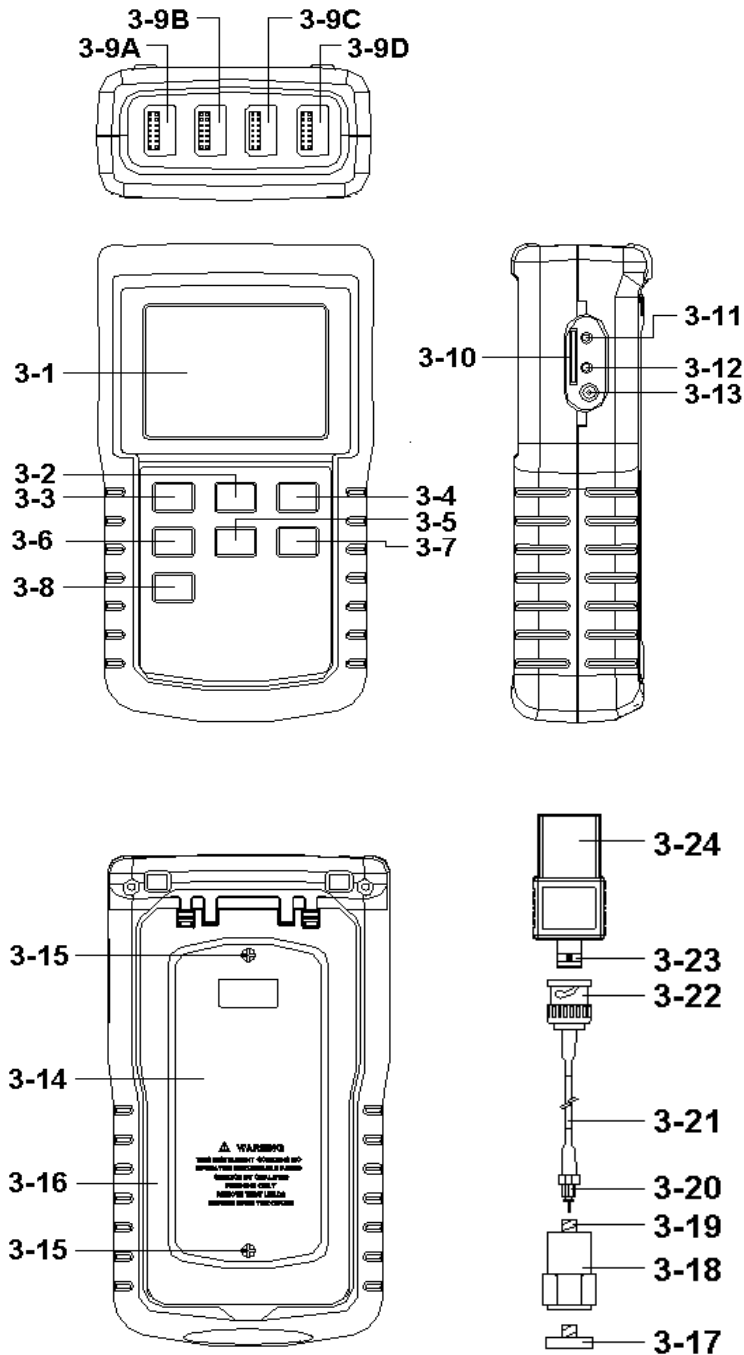
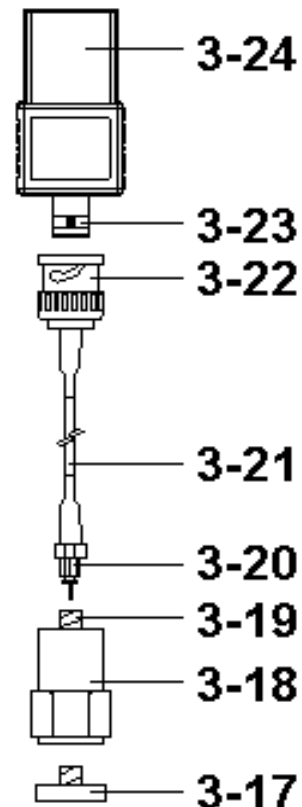

Fig. 1
Fig. 2
Zero Button	Under Acceleration ( RMS ) measurement, sensor motionless , press two Buttons ( 3-5, 3-7, Fig. 1 ) >3 seconds.
Max. Hold Reset Button	Under Max. hold measurement, press two Buttons ( 3-5, 3-7, Fig. 1 ) >3 seconds.
1. Vibration Sensor, 3-18, Fig 2
2. Sensor Cable, 3-21, Fig. 2
- 3 VB-83 module, 3-24, Fig. 2
\* Plug in the " Cable BNC Plug " ( 3-22, Fig. 2 ) to the " BNC Socket of VB-83 module " ( 3-23, Fig. 2 ).
\* Plug in the " Mini plug of cable " ( 3-20, Fig. 2 ) to the " Input socket of vibration sensor " ( 3-19, Fig. 2 ).
**Plug in the " Plug of VB-83 module " ( 3-24, Fig. 2 ) to the " CH1 VB-83 Input Socket " ( 3-9A, Fig. 1 ). If you have extra vibration sensor set, then Plug in to the " CH2/CH3/CH4 VB-83 Input Socket " ( 3-9B, 3-9C, 3-9D Fig. 1 )**
When change the VB-83, it is not necessary to make calibration again due to the vibration detail calibration information already save into the " VB-83 module " ( 3-24, Fig. 2 )*
2)1) Power on the meter by pressing the " Power button " ( 3-2, Fig. 1 ) > 3 seconds continuously.
The " Display " ( 3-1, Fig. 1 ) will show the 4 channels vibration value ( CH1, CH2, CH3, CH4 ) at the same time. If some channels not plug in the VB-83 Vibration set, then the corresponding channel Display will show " - - - - ".
- \* If the surface material of measuring article is the ferrous material, connect " Vibration sensor " ( 3-18, Fig. 2 ) with the " Magnetic base " ( 3-17, Fig. 2 ). Put the whole unit ( Vibration sensor & Magnetic base ) to the surface of measuring article.*
- \* Please do not use the finger or hand to touch the the " Sensor cable " ( 3-21, Fig. 1 ).*
Select the desired display unit by pressing the " ACC/VEL/DISP Button " ( 3-5, Fig. 1 ) > 3 seconds ( not release the button ), the Display will show the following units according Acceleration / Velocity / Displacement in sequence.
Select the desired function ( RMS, Peak, Max HOLD ) by pressing the " Function Button " ( 3-7, Fig. 1 ). continuously ( not release the button ), until the Display will show the desiring function ( RMS, Max HOLD, Peak ) , then release the " Function Button " ( 3-7, Fig. 1 ).
- 1) Vibration sensor set, VB-83 is ready, connect the " Plug of VB-83 module " ( 3-24, Fig. 1 ) to the " CH1, CH2, CH3, CH4 VB-83 Input Socket " ( 3-9A, B, C, D, Fig. 1 ).
- 4) Under Acc./Velocity/Displacement measurement if press the " ▲ Button " ( 3-5, Fig. 1 ) and " ▼ Button " ( 3-7, Fig. 1 ) together > 3 seconds, then the " CH1 " symbol will flashing.
*\* Press the " SET Button " ( 3-6, Fig. 1 ) to select the channel no. ( CH2, CH3, CH4 ), after the exact channel is selected, the channel no. will flashing .*
Press " Enter Button " ( 3-8, Fig. 1 ) to let the display reach zero value according the selected channle no. ( flashing ).
Under execute the Max Hold function if press the " ▲ Button " ( 3-5, Fig. 1 ) and " ▼ Button " ( 3-7, Fig. 1 ) together > 3 seconds, then the " CH1 " symbol will flasing.
Press " Enter Button " ( 3-8, Fig. 1 ) to clear the existing Max hold value according the selected channle no. ( flashing ).
During the measurement, press the " Hold Button " ( 3-3, Fig. 1 ) once will hold the measured value & the LCD will display a " HOLD " symbol.
- 1) The data record function records the maximum and minimum readings. Press the " REC Button " ( 3-4, Fig. 1 ) once to start the Data Record function and there will be a " REC " symbol on the display.